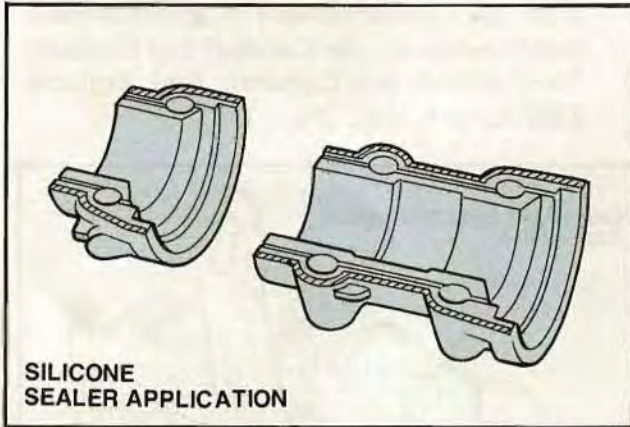

Figure 117. No. 1 Camshaft Bearing Caps Silicone Sealer Application Points
- Apply a thin bead, approximately 2.5mm (1/10 in.) thick, of Ford Silicone Sealer E3AZ-19562-A or equivalent to the No. 1 bearing caps (Fig. 117).